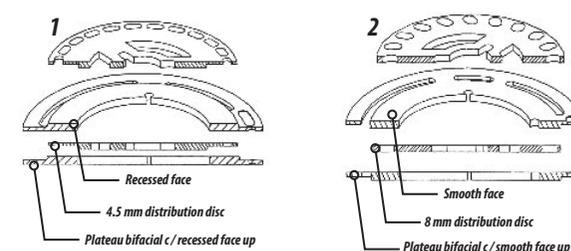

Figures 19
- For 8 mm disc, assemble the bifacial plateau with smooth face up as item 2, figure 19.
The incorrect assemblage of distribution discs and bifacial plateau may damage the machine and planting, as shown in Figures 19.